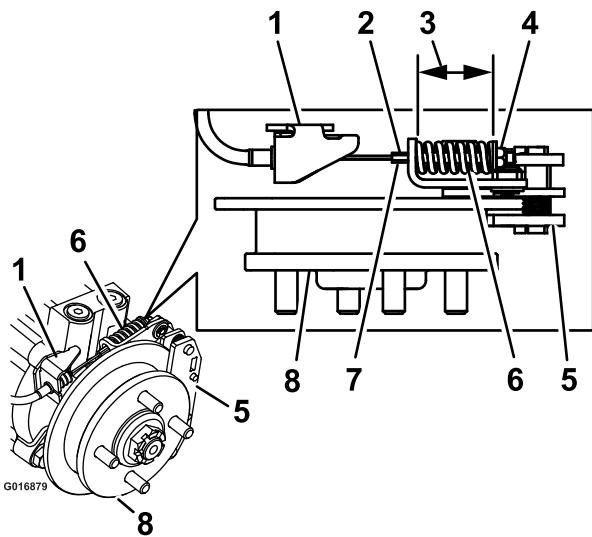

Figure 74
9. Hold the threaded rod end with a tool and adjust the lock nut until the spring length is between 3.8 and 4.0 cm (1-1/2 and 1-9/16 inches) (Figure 74).